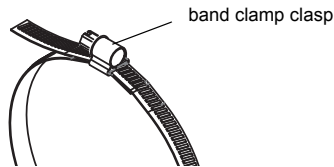

Fig. 7.14: Tension strap with band clamp clasp
- Place the tension strap around the pipe and insert it in the clasp (see Fig. 7.14).